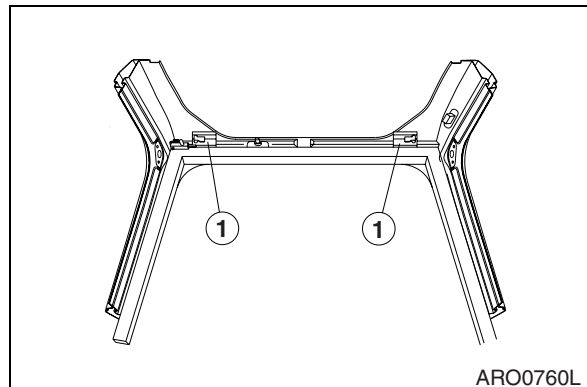

Figure 97
6. Push front window to secure front window by lock catches (1, Figure 97).